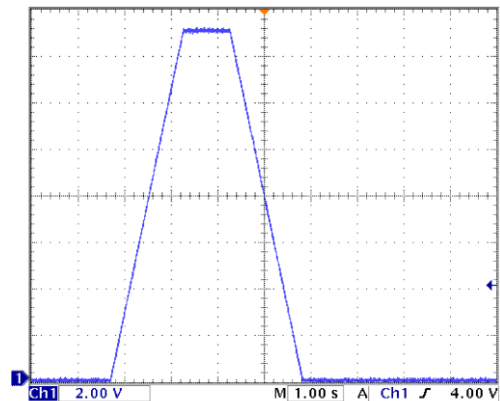

Figure 9.5: Output voltage as result of the above example.
- Notepad. Save as "filename.seq". An example is shown in Figure 9.4 and Figure 9.5.